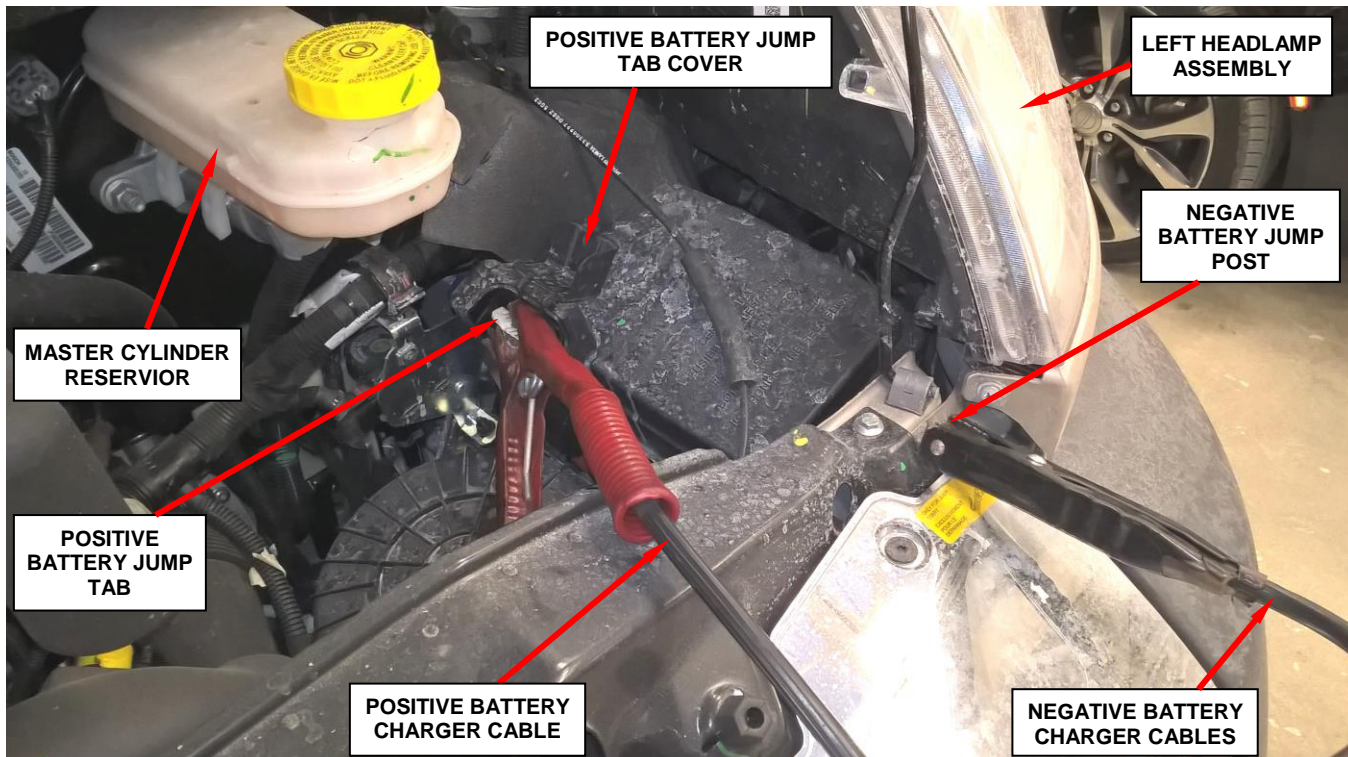

Figure 1 – Battery Charger Connections
1. Open the hood. Install a battery charger and verify that the charging rate provides 13.2 to 13.5 volts. Do not allow the charger to time out during the flash process (Figure 1). Set the battery charger timer (if so equipped) to continuous charge.